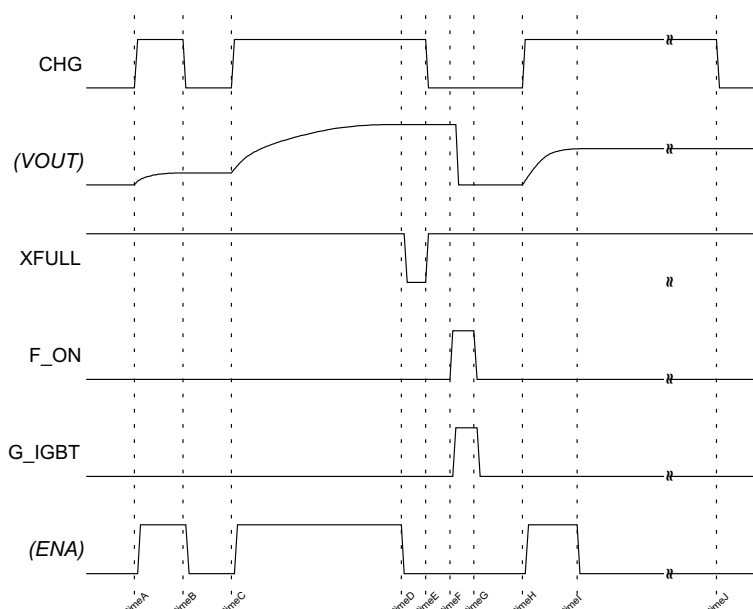

Figure 4. Whole Operation Sequence Chart
TPS65562 has one internal enable latch, F1, that holds the charge enable (ON/OFF status) of the device (see Figure 4).
The only way to start charging is to input $\text{CHG}\uparrow$ (see time A/C/H in Figure 4). Each time $\text{CHG}\uparrow$ is applied, the TPS65562 starts charging.
1. Forced stop by inputting $\text{CHG} = \text{L}$ from the controller (see timeB in Figure 4).
2. Automatic stop by detecting a full charge. VOUT reaches the target value (see TimeD in Figure 4).
3. Protected stop by detecting an overcurrent function (OVDS) trigger at SW pin (see TimeI in Figure 4).
The TPS65562 provides an over voltage monitor function of the SW pin. The TPS65562 is latched off if the voltage on the SW pin is above OVDS during the switch ON time (see Figure 4 and its descriptions).